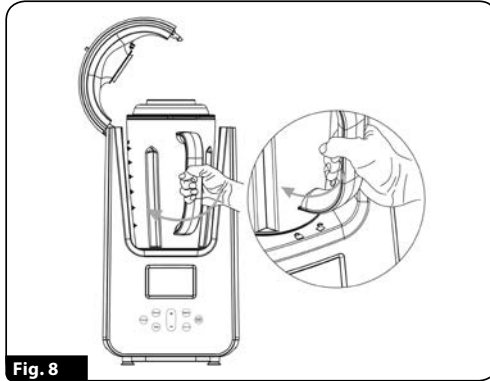
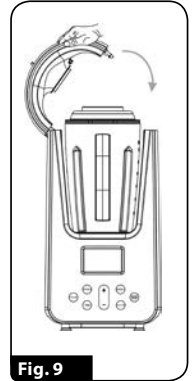

Fig. 8
Fig. 9
- Put the blender jug ⑦ in the blender housing ① with the jug handle aligned with the open padlock mark. Now, twist the blender jug gently to align the jug handle with the closed padlock mark (Fig. 8). With the blender jug installed, lower and press the swivel blender top to lock it in place (Fig. 9).